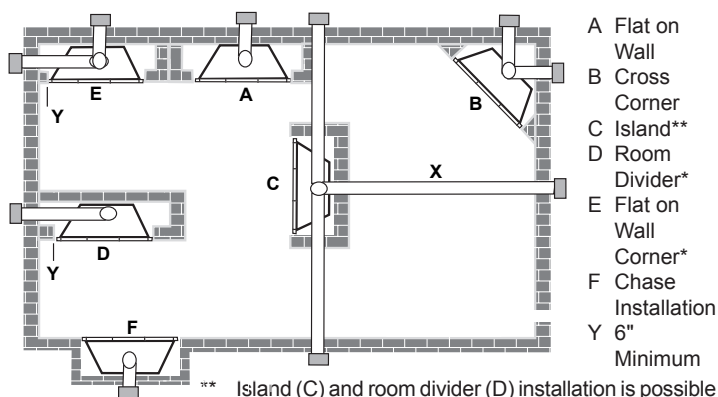

**Figure 3 - Locating Gas Fireplace**
- This fireplace may be installed along a wall, across a corner, or use an exterior chase. Refer to Figure 3 for suggested locations.